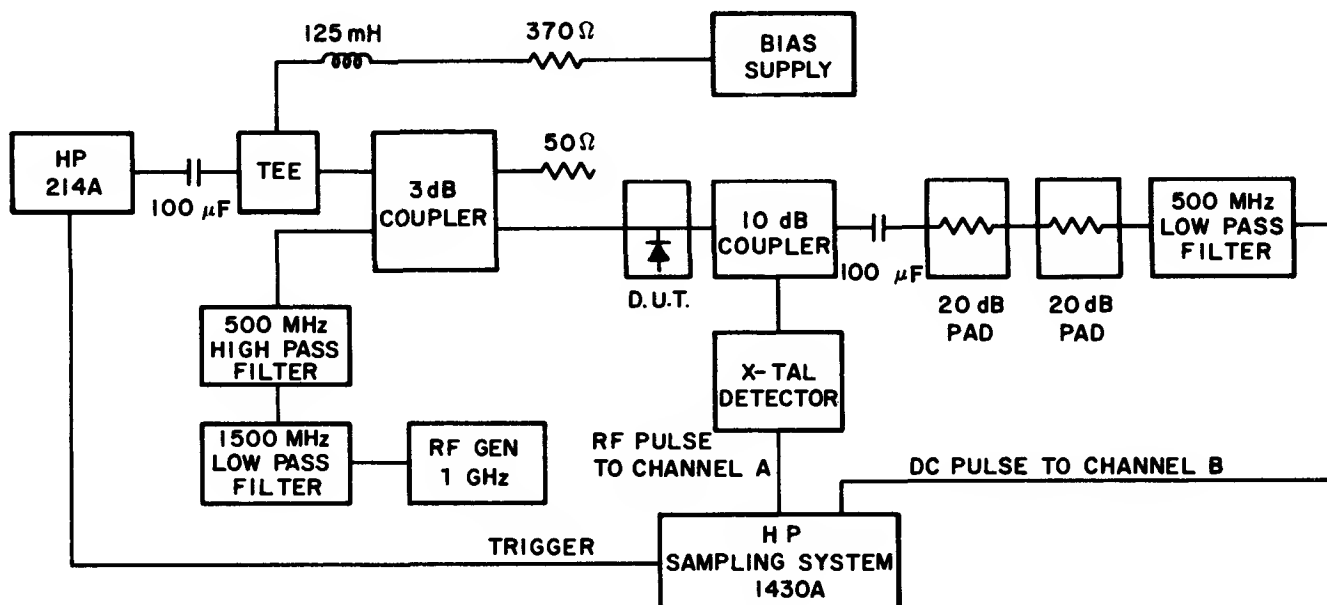

FIGURE 1 TEST CIRCUIT FOR SWITCHING TIME
- The speed with which the diodes will switch RF power depends on the shape of the waveform and the bias conditions. The typical data section shows switching times measured using the circuit of Figure 1;  $t_{fr}$  is from forward to reverse bias, and  $t_{rf}$  is from reverse to forward bias. The MA-47082 is measured between  $50$  mA forward and  $50\text{V}$  reverse; the MA-47084 is measured at  $150$  mA and  $100\text{V}$ ; all others from  $100\text{V}$  to  $+100$  mA or vice versa.